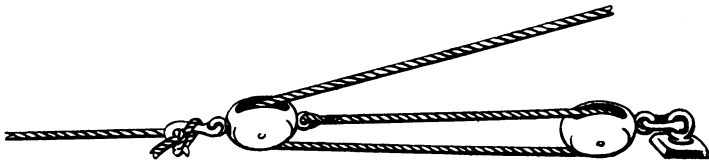

Fig. 180.—Gun tackle
(4) *The Gun Tackle* (Fig. 180). This is the term usually applied to a purchase consisting of two single blocks, but which is not used for hoisting; it cannot then be called a double whip as this term is applied only when it is used for hoisting. In the gun tackle the standing part of the fall is always made fast to one of the blocks. The name originates from the small tackle which was used to run out the old muzzle-loading gun carriages after they had recoiled. The M.A. is 3 if rove to advantage, and 2 if rove to disadvantage.